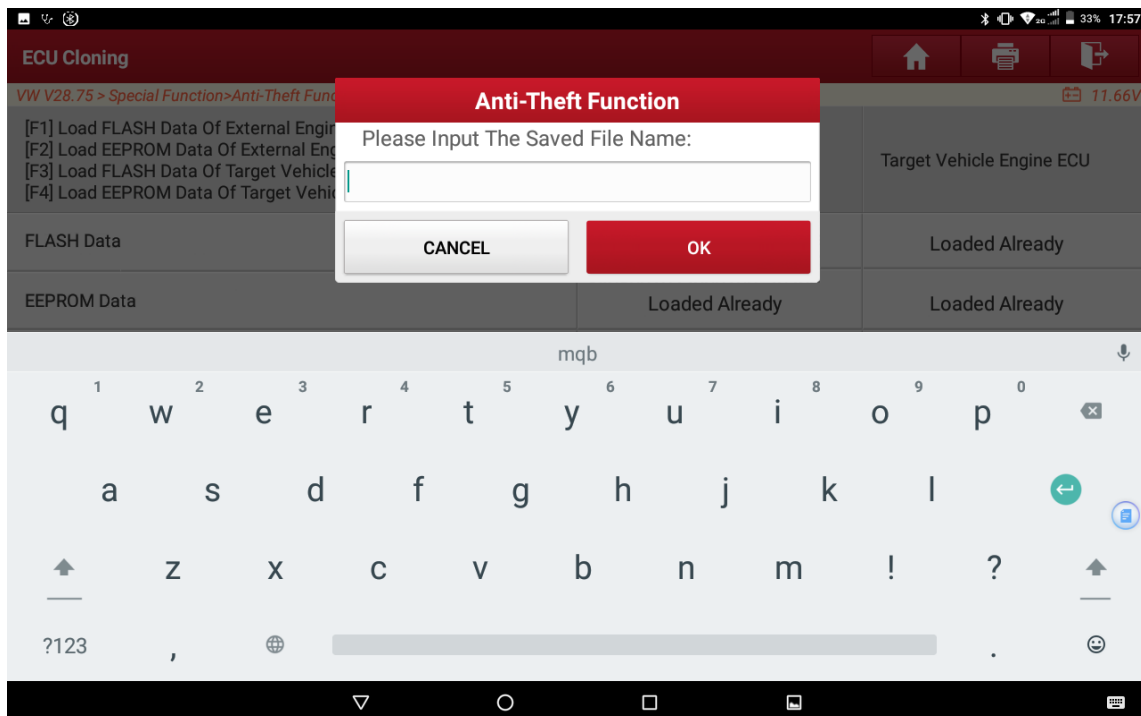

Figure 11
- After all the four pieces of data are loaded, click **【Start Cloning】** , and save the generated data after cloning is completed, as shown in Figure 11,12 and 13;